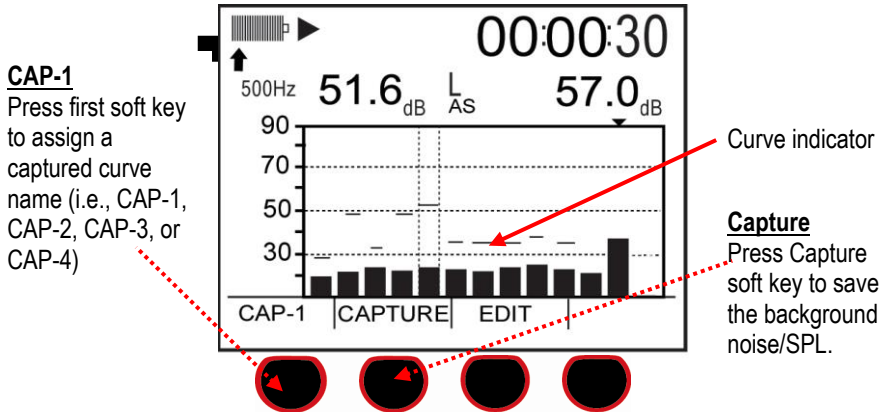

Figure 6-26: Captured curves/background noise
3. Capturing curve/background noise: (See Figure 6-26 below.)
- When the level is stabilized, press the **"Capture"** key. (See Figure 6-26.)